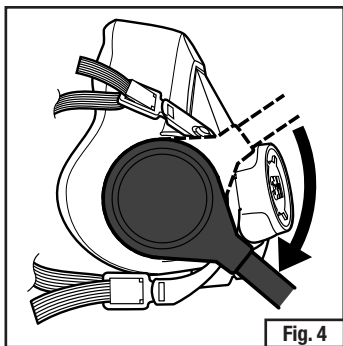

Fig. 4
2. Twist each branch of the breathing tube clockwise a quarter turn until it is firmly seated in the bayonet and cannot be turned further. Do not forcibly overturn as the bayonet could be damaged (Figs. 4 and 5).